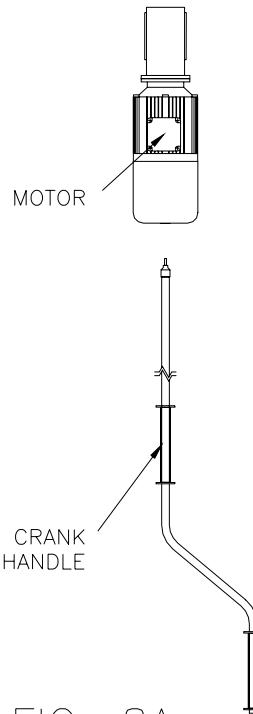

FIG. 8A
- Align Motor Output Shaft keyway with Fabric Roll Shaft keyway (Figure 8a).